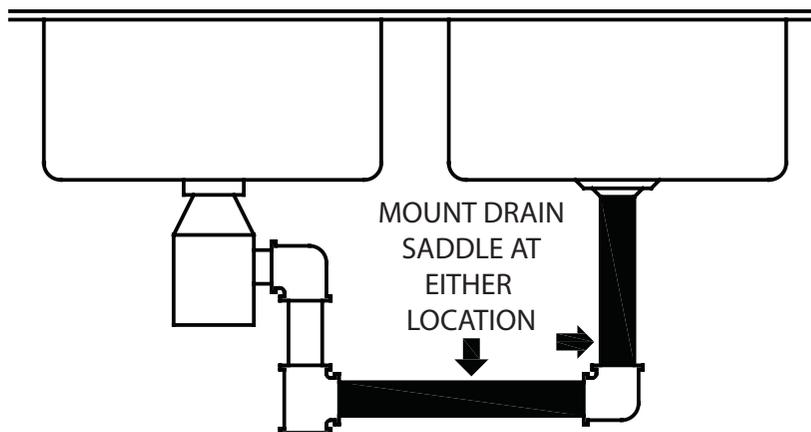

Fig. 3
1. See **Fig. 3**. The drain saddle assembly should be installed above the trap and on the vertical or horizontal tailpiece. To reduce the drainage noise, mount the drain line as low as possible above the trap, or on the horizontal tailpiece.